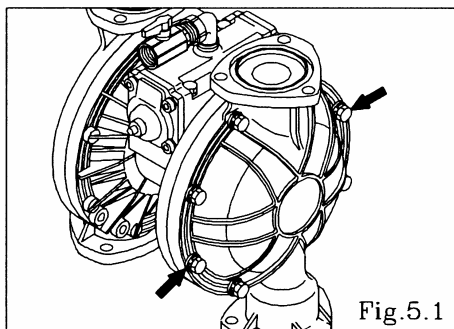

Fig.5.1
See [9. Exploded View] on after p. 13. (Fig. 5.1 shows the NDP-50 BS□.)
- Remove the 16 (24 on the NDP-80) retainer bolts from the out chamber, and remove the out chamber. [Fig.5.1]